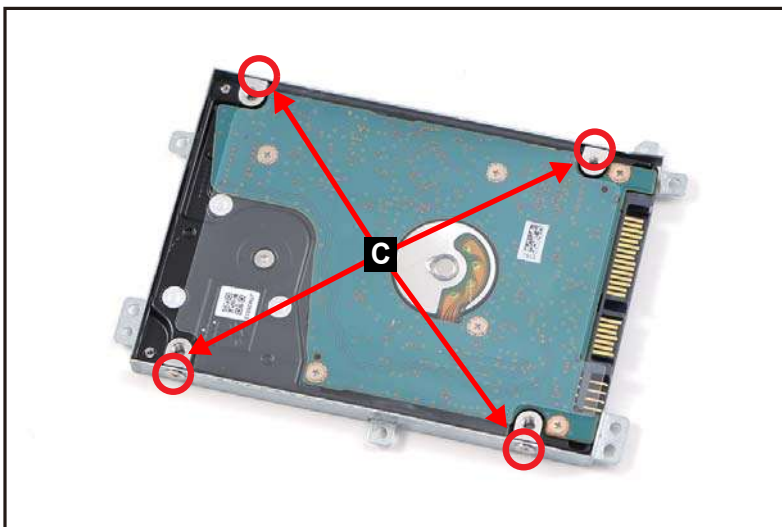

Figure 3-99. Replacing the HDD Module
2. Install and secure four (4) screws (C) to the HDD bracket (Figure 3-99).